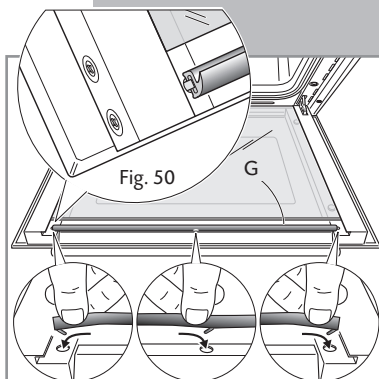

Fig. 51
- Reassemble the seal G in the correct way (fig. 50) by hooking the no. 3 fixing hooks in the proper holes (fig. 51).